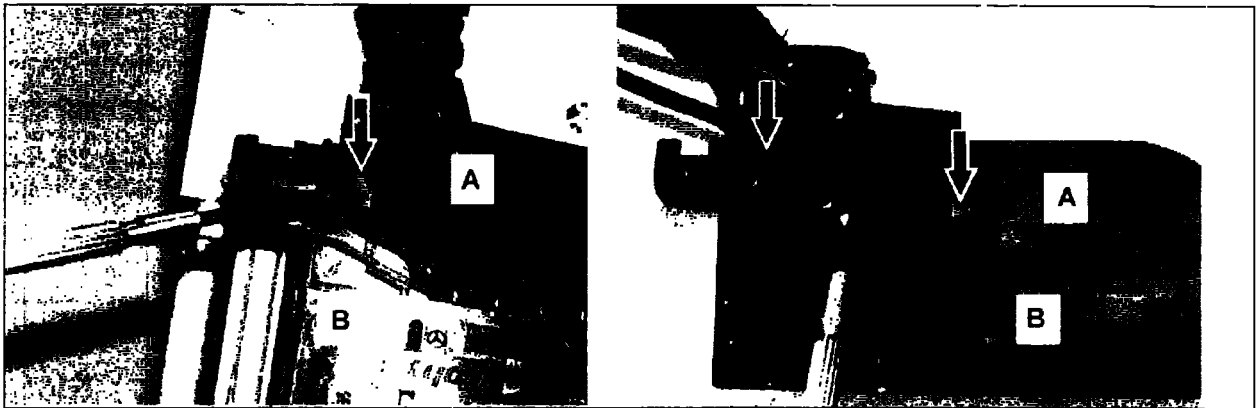

Figure 7
6. Remove SBC connector housing cover (A, Figure 7):
- Using a small screw driver, carefully pry cover (A) away from locking lugs (arrow) until it disengages.
- Remove the cover (A) from the housing (B).
Ensure the locking lugs (arrows, Figure 7) on the harness connector are properly engaged into the harness connector cover.